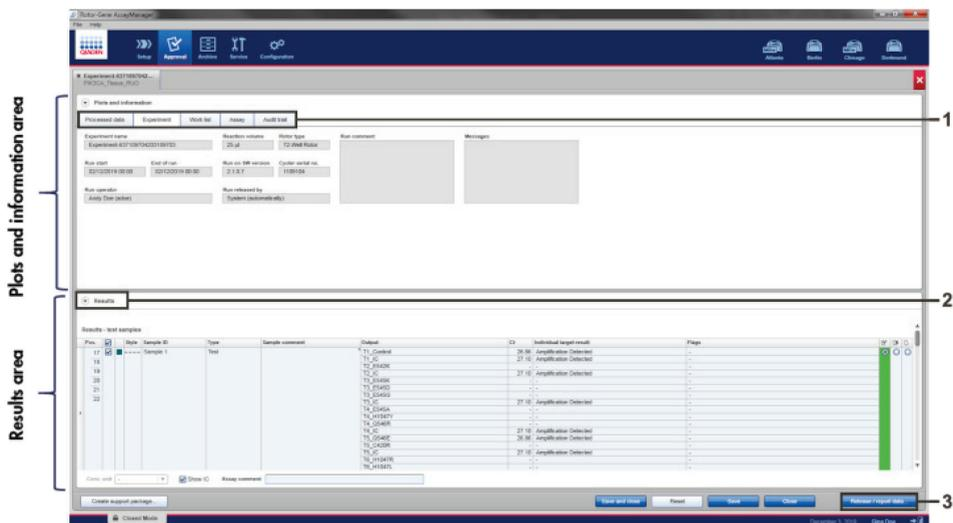

Figure 17. Example of assay results main windows. 1 = “Experiment” tab in the “Plots and information” area. 2 = Results area, 3 = “Release/report data”.
24. Click **Release/report data**. The “Release/report data” window appears. (Figure 17).